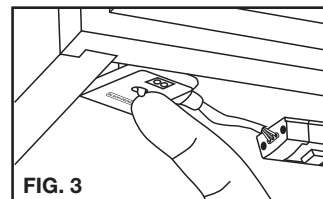

FIG. 3
This lighting system is equipped with an optional auto shutoff timer switch that will power the unit off after three (3) hours. To activate, switch to the "on" position. To disable, switch to the "off" position. (See **FIG. 3**)